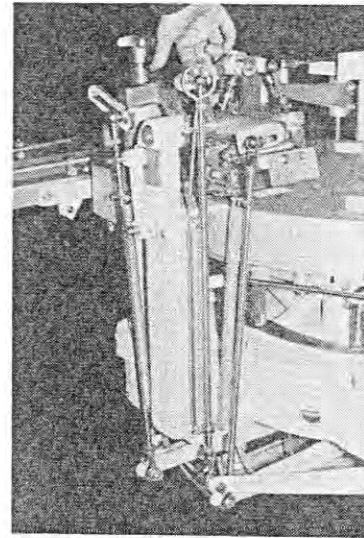

Fig. 253
2. Relieve the lever of the cam roller to be replaced by unhooking the appropriate cylinder (Figure 253).